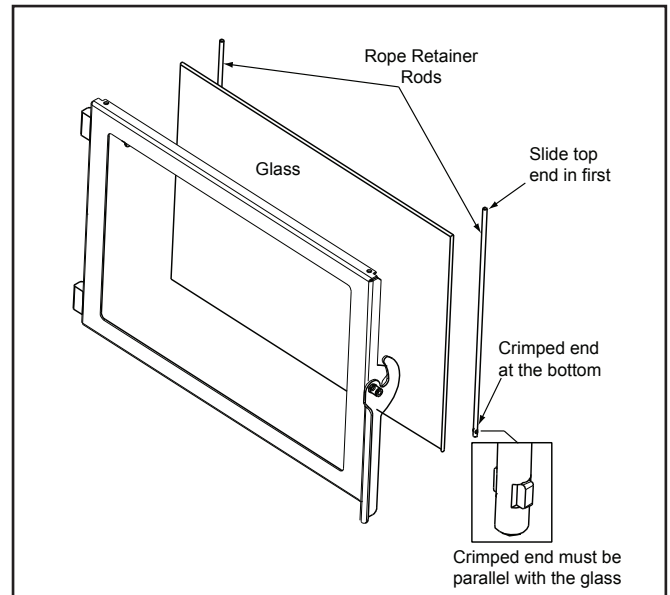

Figure 36.2
4. Slide the retainer rod into the top hole first, and then line up the bottom crimped end with the hole in the door. The crimped end must be parallel with the glass in order to insert it into place. **Figure 36.2.**